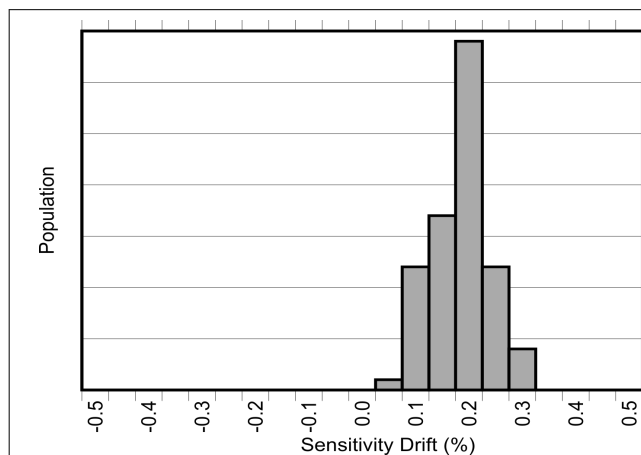
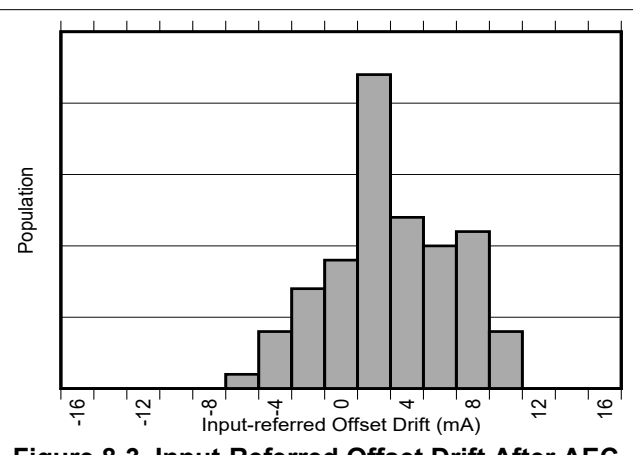

Figure 8-2. Sensitivity Error Drift After AEC-Q100 High Temperature Operating Life Stress Test
Figure 8-3. Input-Referred Offset Drift After AEC-Q100 High Temperature Operating Life Stress Test
In addition to large thermal drift, typical magnetic current sensors suffer an additional 2% to 3% drift in sensitivity due to aging over the lifetime of the device. The same proprietary compensation techniques used in the TMCS1123 to reduce temperature drift are also used to greatly reduce lifetime drift due to aging from stress and environmental conditions especially at high operating temperatures. As shown in the Electrical Characteristics, the TMCS1123 has industry leading lifetime sensitivity drift realized after Highly Accelerated Stress Tests (HAST) at 130°C and 85% relative humidity (RH) during standard three lot AEC-Q100 qualifications. Low sensitivity and offset drift within the bounds specified in the Electrical Characteristics are also observed after 1000 hour, 125°C high temperature operating life stress tests are performed as prescribed by AEC-Q100 qualifications. These tests mimic typical device lifetime operation, and show device performance variation due to aging is vastly improved compared with typical magnetic current sensors. Figure 8-2 and Figure 8-3 show the sensitivity and offset drift after a 1000 hour, 125°C high temperature operating life stress test as specified by AEC-Q100. This test mimics typical device lifetime operation, and shows the likely device performance variation due to aging is vastly improved compared to typical magnetic sensors.